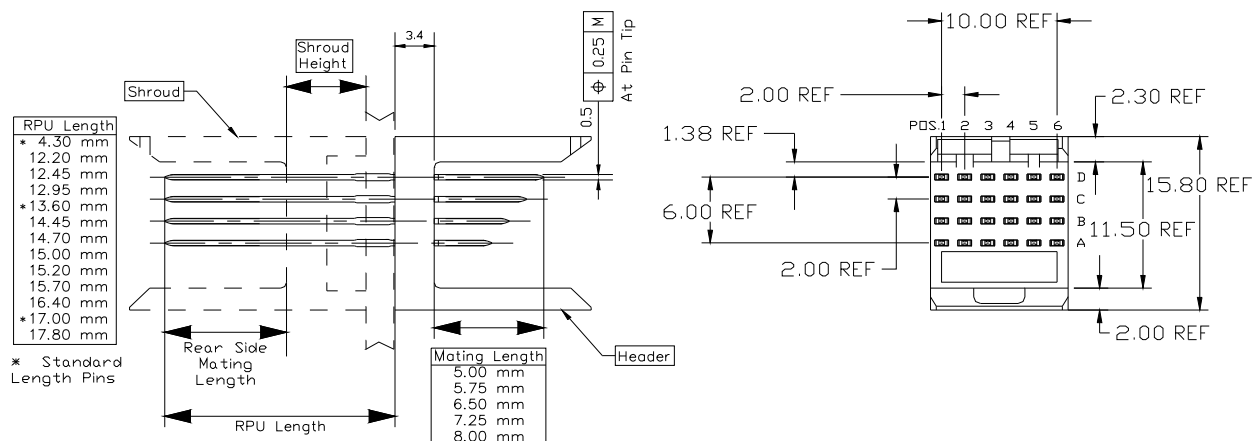

Figure 4 - Vertical press fit 4-row signal header. (All dimensions in mm)
- Five different mating lengths are available on the press fit header, as shown in Figure 4, enabling First Make/Last Break (Hot Plugging).
- True position of the pins is also shown in Figure 4.
- Various tail lengths are available as shown in Figure 4. Rear Plug-up (RPU) options are also available to facilitate midplane applications and backside cabling. The use of the RPU pins necessitates the use of shrouds. The shrouds, coupled with the board thickness, determine the effective mating length of the RPU pins. Refer to Tables 6, 7, and 8 to find the effective mating length of the RPU pins.